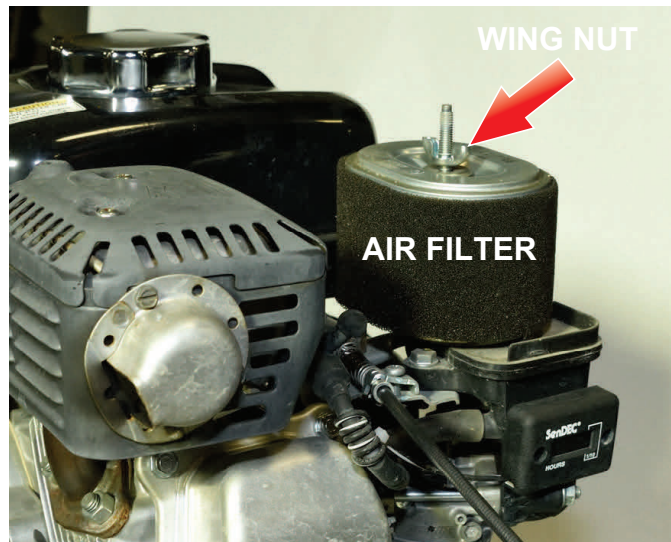

Figure 13. Air Filter Removal
3. Remove the inner wing nut from the air filter, then remove the air filter (Figure 13). Set the wing nut and air filter aside.